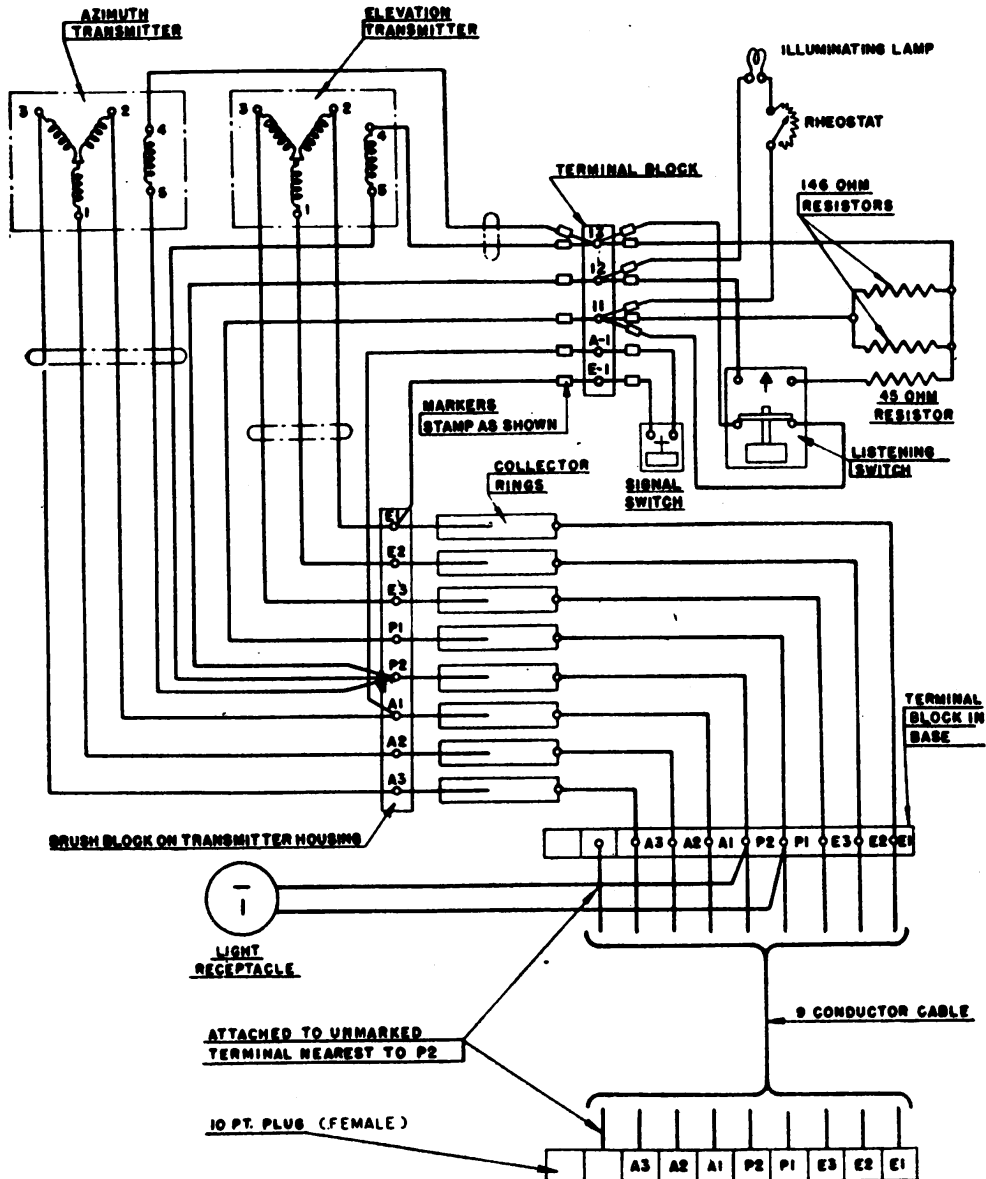

FIGURE 14.
a. No voltage at terminals.	Check continuity of power cables and plugs. Check terminal block wiring in accordance with figure 14.
c. Terminal block wiring incorrect.	Check with wiring diagram, figure 14.
a. Reversed secondary connections.	Check with wiring diagram, figure 14, and correct as required.